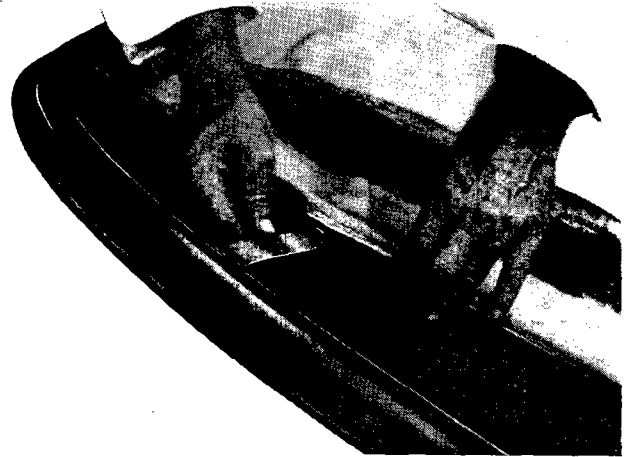

Fig. 43 Assembling listing rail No. 1 to the retaining clips
- 4 Commencing at the rear, assemble the rails to the roof panel cantrail. Secure the front rail No. 1 behind two retaining clips (Fig. 43). Gently pull the lining to the rear and lightly secure it to the roof flange only (Fig. 44).